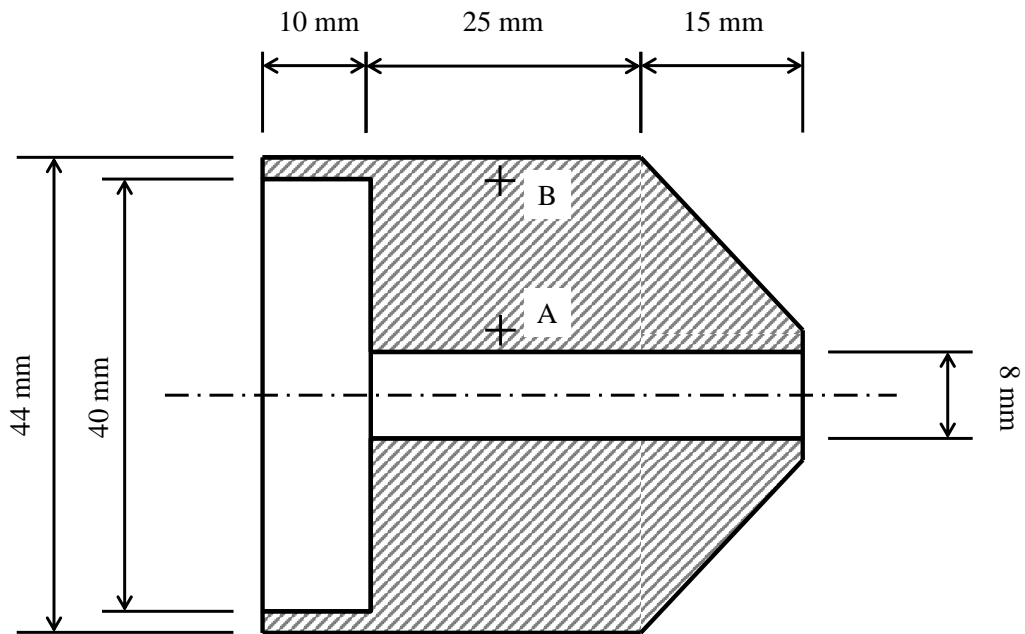

Fig. 1
1 An axisymmetric nozzle, shown in cross-section in Fig. 1, is to be manufactured from aluminium alloy.
- (iii) A quality control check carried out after the machining process shows that the nozzle has a lower hardness at point A (Fig. 1) compared to point B. Give two possible explanations. [10%]